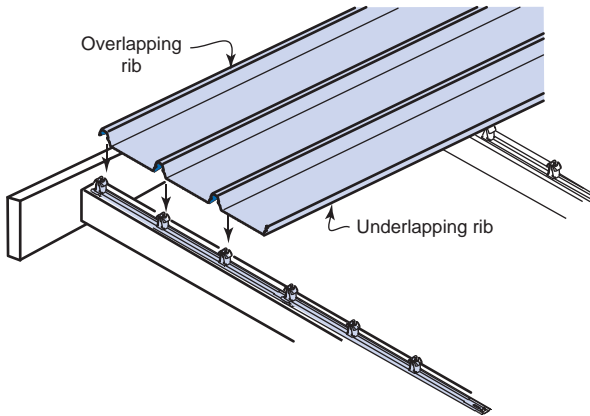

Figure 4
9. Position the first sheet so that it overhangs the desired amount (usually 50mm) to the gutter. It is important to ensure this first sheet is placed square to adjacent edges. (Figure 4.)